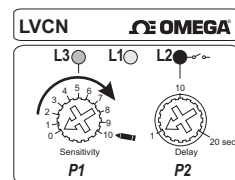

Fig.2
Material falling onto the probe can cause damage or switching errors. If this is unavoidable, it is recommended that a protective shield be installed above the probe to protect it. The shield is also recommended when the probe is used for a low level switch or in the outflow of the product (Fig. 2).
The tip of the probe should slightly point downward (when possible) so that if there are any excess of product it will easily slide from the probe (Fig. 2).
When installing the sensor directly to the tank make sure that the rod extends beyond the inner wall of the tank, by as much as possible, so that internal build up or other debris does not interfere with the sensor's performance (Fig. 2 correct Fig. 4 incorrect).
3. With the vessel empty (or the medium not in contact with the sensor), turn the sensibility potentiometer (P1) clockwise until the yellow LED (L3) turns On. Mark that location on the electronics' label using a pencil. If this LED (L3) does not turn on, mark the maximum position on the label with a pencil (Fig. 2).
Do not turn or handle by the housing when tightening the process connection. However, the housing is suitable to be reoriented by once the process connection has been tightened.(Fig. 2).